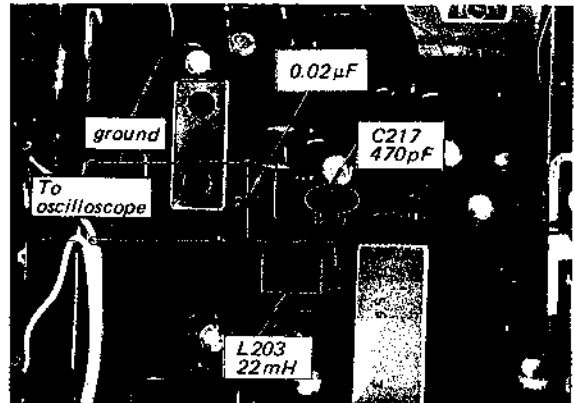

Fig. 3-3. Fm discriminator output connection
- Connect the input cable of the oscilloscope with alligator clips to C217 and ground on the tuner and MPX board, and solder a 0.02 μF capacitor across these clips, as shown in Fig. 3-3.